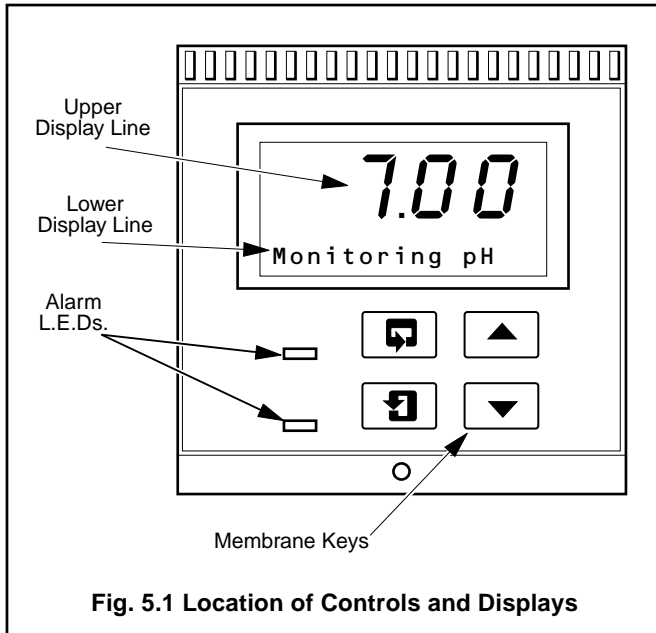

Fig. 5.1 Location of Controls and Displays
5.1 Displays – Fig. 5.1
5.2 Controls Familiarization – Figs. 5.1 and 5.2